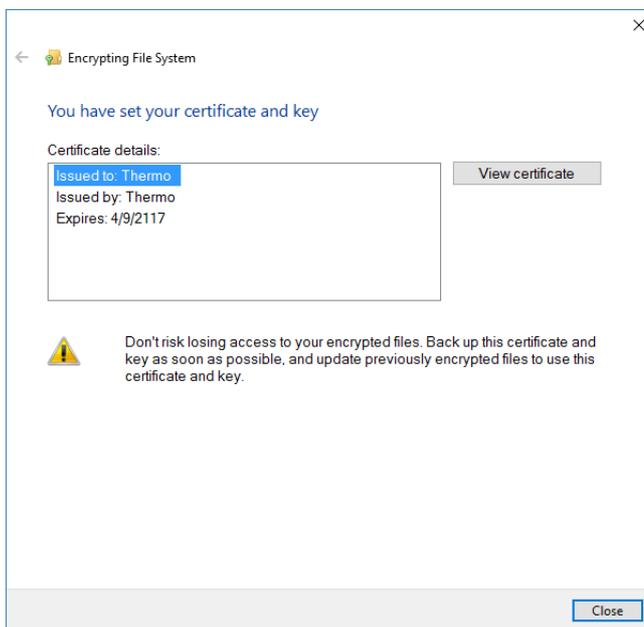

Figure 2-29. Finishing Encrypting File System wizard
8. Finish the **Encrypting File System** wizard, see Figure 2-29.